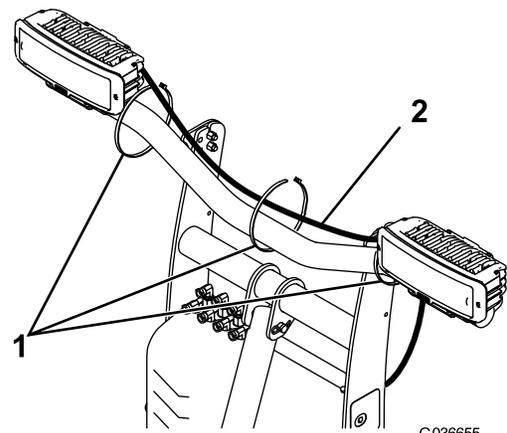

Figure 12
6. Insert the headlight connectors on the wire harness to the back of the headlight housing (Figure 12).
7. Secure the short wire harness to the light bar using 3 cable ties as shown in Figure 12.